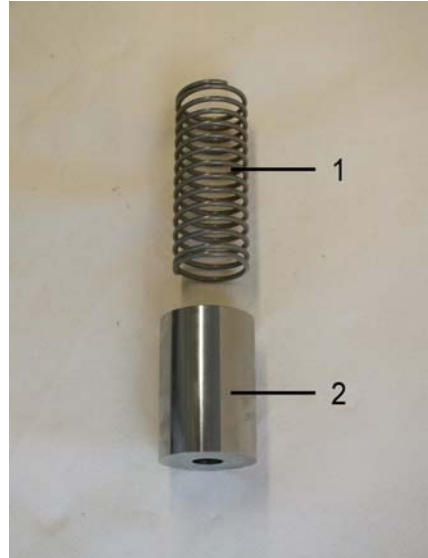

Fig. 39: Spring and float
- 7.** The inner parts of the flow monitor consist of the spring (Fig. 39/1) and float (Fig. 39/2).